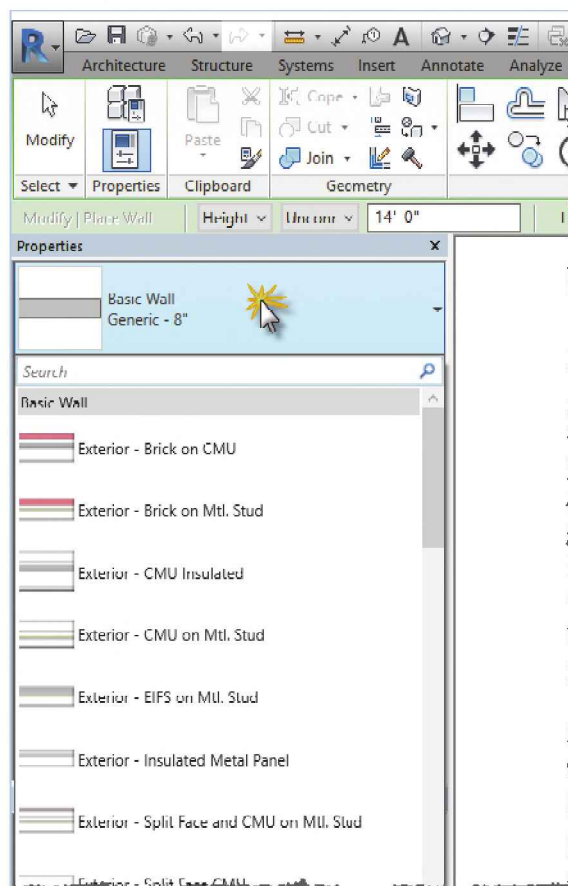

FIGURE 5-1.6 Preloaded wall types
7. Click the *Type Selector* down-arrow on the *Properties Palette* (Figure 5-1.6).